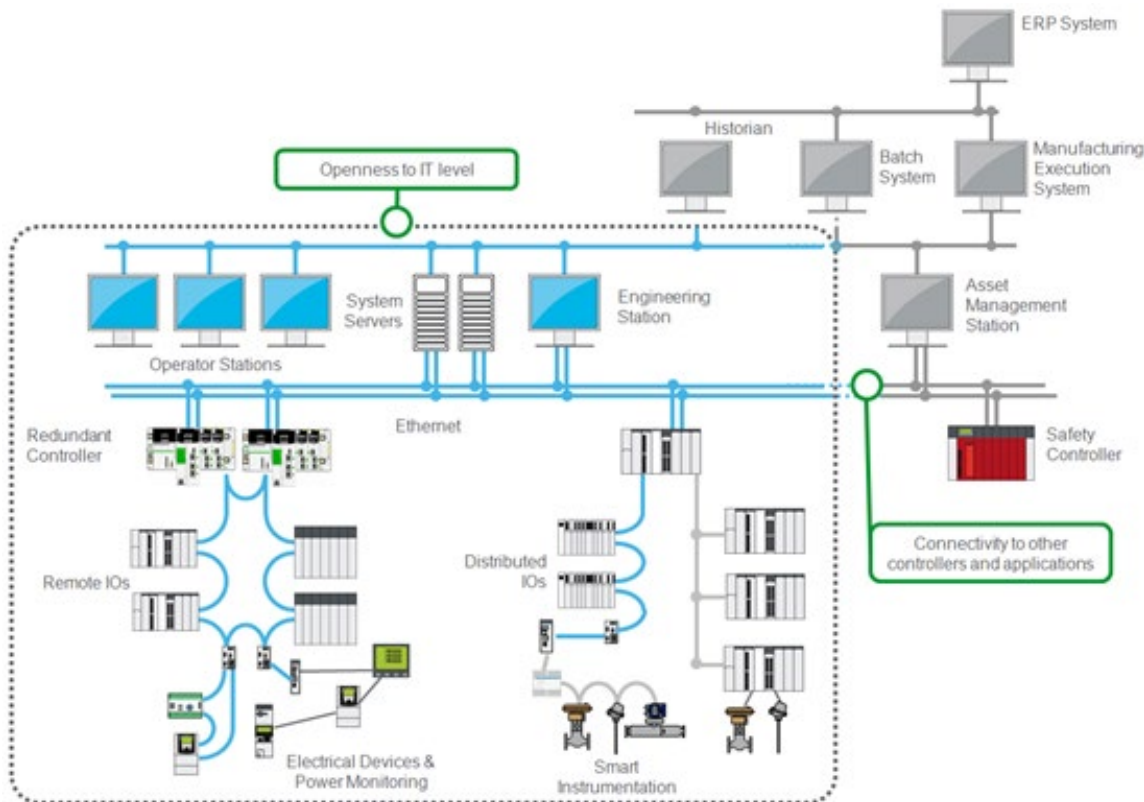

Figure 1: Positioning of PES within the EcoStruxure Platform
*Figure 1* shows an overview of an automation system. All elements that are located inside the dotted line are part of PES. PES covers the needs of an automation system from the field devices all the way up to the control room. In addition, PES is open so other components can be added to it – either as devices, other controllers or IT level applications like batch, MES, historian or asset management.